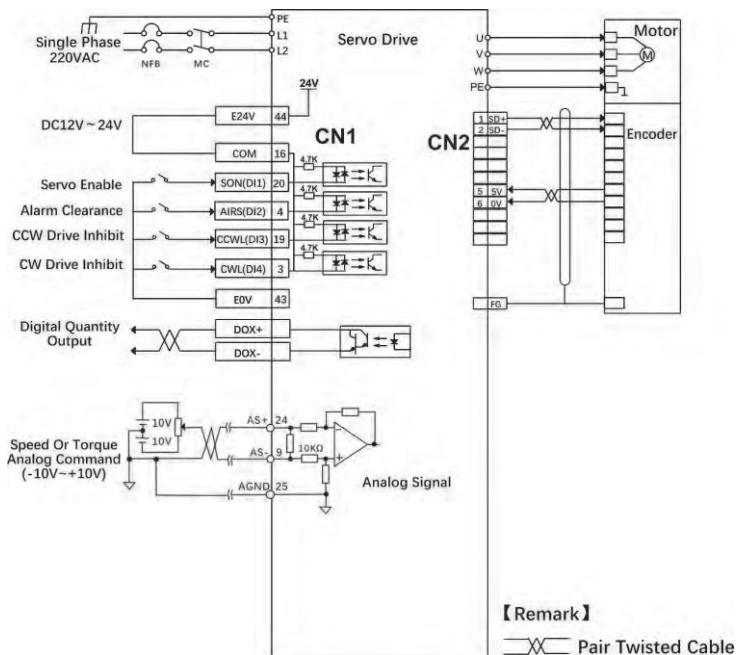

Figure 5.6 Torque mode wiring diagram
- ❶ Correctly connect the power supply of the servo main circuit and control circuit, as well as the motor power line and encoder line. After power-on, the servo panel displays "r 0", which means that the servo power supply and encoder wiring are correct.
- ❷ Carry out servo JOG test run by pressing the key to confirm whether the motor can run normally.
- ❸ Refer to Figure 5.6 for wiring instructions to connect the required DI/DO signals in the CN1 terminal, such as servo enable, alarm clear, positioning completion signal, etc.
- ❹ Make relevant settings for torque mode. Set the DI/DO used according to the actual situation.
- ❺ Servo enable, control the rotation of the servo motor through the position command issued by the upper computer. First, make the motor rotate at a low speed, and confirm whether the direction of rotation and the electronic gear ratio are normal, and then adjust the gain.